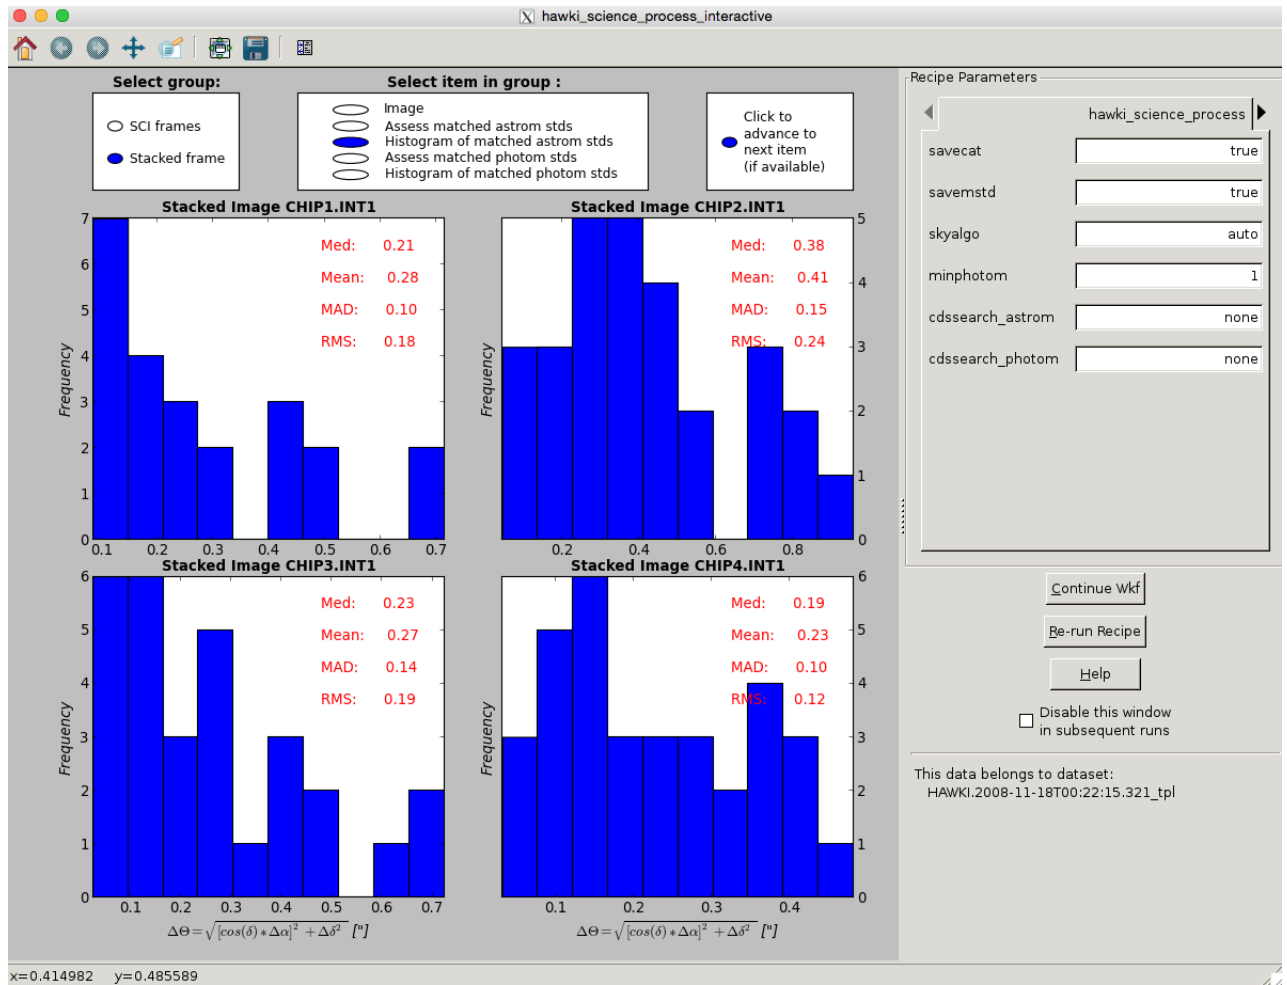

Figure 8.11: Example interactive window for evaluating the results of `hawki_science_process`; a histogram of offsets shown in Figure 8.10 are shown.
- Histogram of matched astrom stds (Fig8.11): if the recipe parameter `savestd` is set to `true`, this